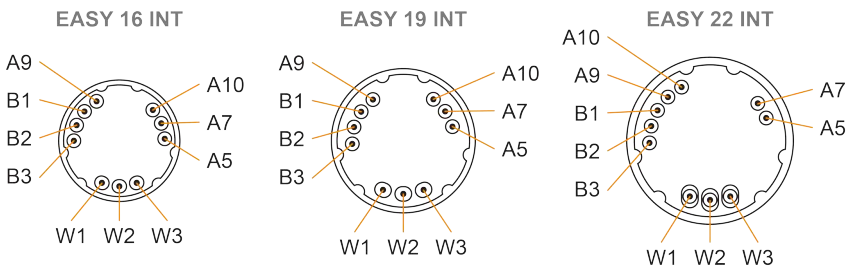

Figure 17 ENX 16 | 19 | 22 EASY INT Absolute COMM – Pins
- Absolute encoder, Hall sensors, and motor with pins (→Figure 17)